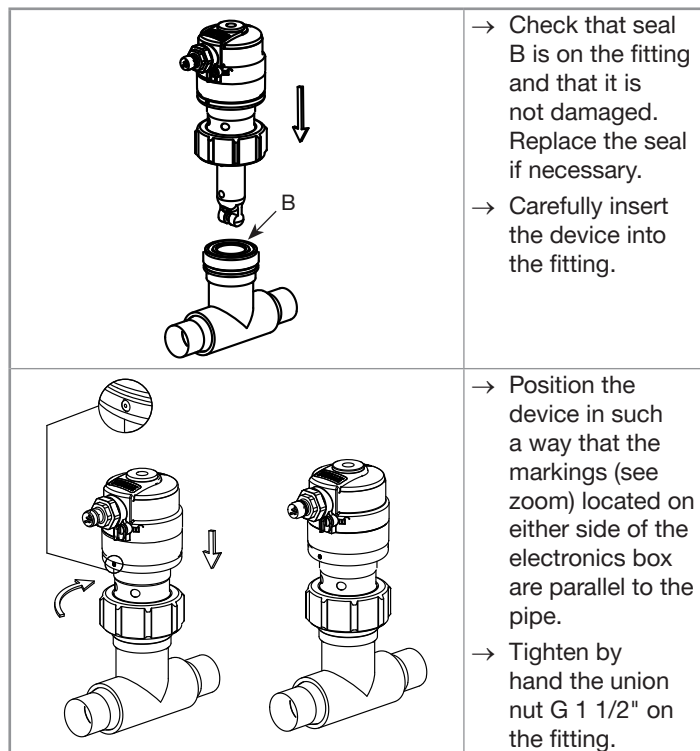

Fig. 10: Installation of the device into a fitting
- Install the device on the fitting (see Fig. 10).
- Position the device in such a way that the markings (see zoom in Fig. 10) located on either side of the electronics box are parallel to the pipe.